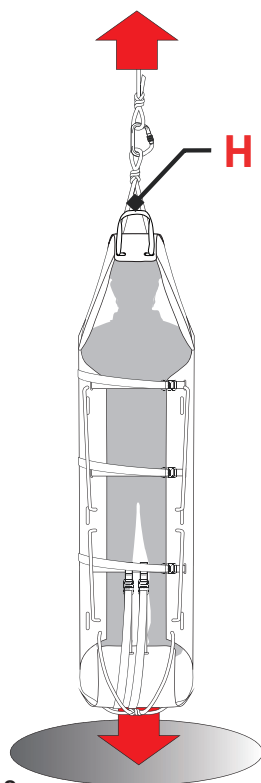

Fig.18
Static resistance Verified by lifting with the static rope (fig. 18):	1200 kg
- **Vertical descent and recovery (fig. 18)** with the rope (H)